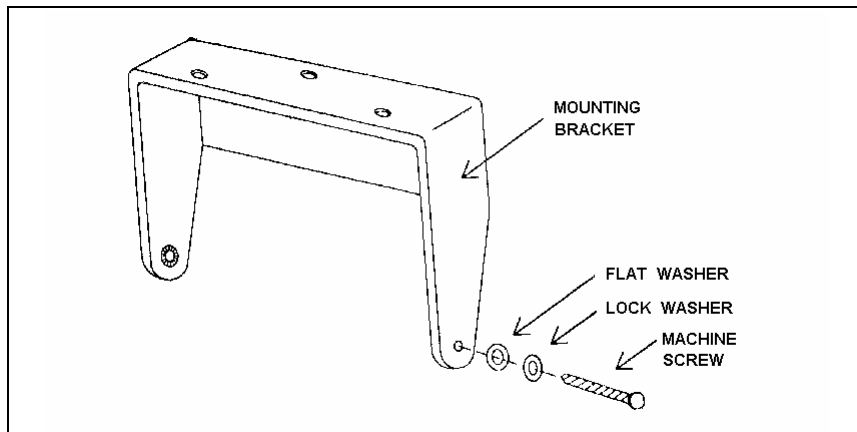

Figure 9-13: Speaker Mounting Bracket
1. Use the mounting bracket as a template for locating the mounting holes and mount the speaker as shown in Figure 9-13.